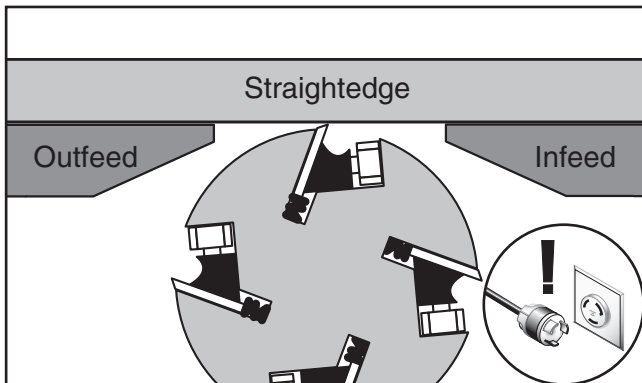

Figure 65. Infeed table even with outfeed table.
3. Use the straightedge to help adjust the infeed table exactly even with the outfeed table, as shown in **Figure 65**.